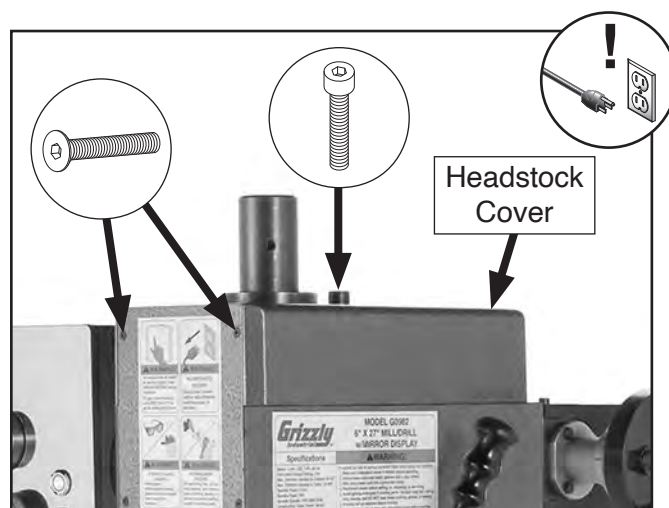

Figure 56. Location of headstock cover and securing screws.
2. Remove (2) flat head cap screws shown in **Figure 56**.
3. Remove cap screw shown in **Figure 56**, then remove headstock cover.